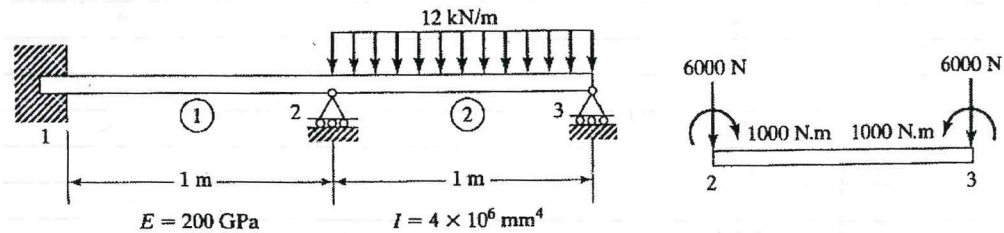

Fig.1
12. a) The beam is loaded as shown in Fig. 1; determine :